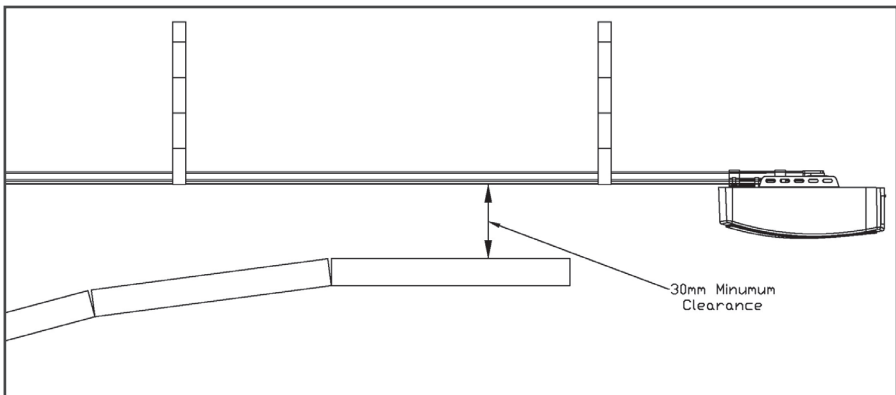

FIGURE 1
5. There should be a minimum gap of 30mm between the bottom of the chain drive rail and the top of the garage door at its closest point. (refer to Fig 1.)
Assemble the battery & battery bracket per fig 1 then,